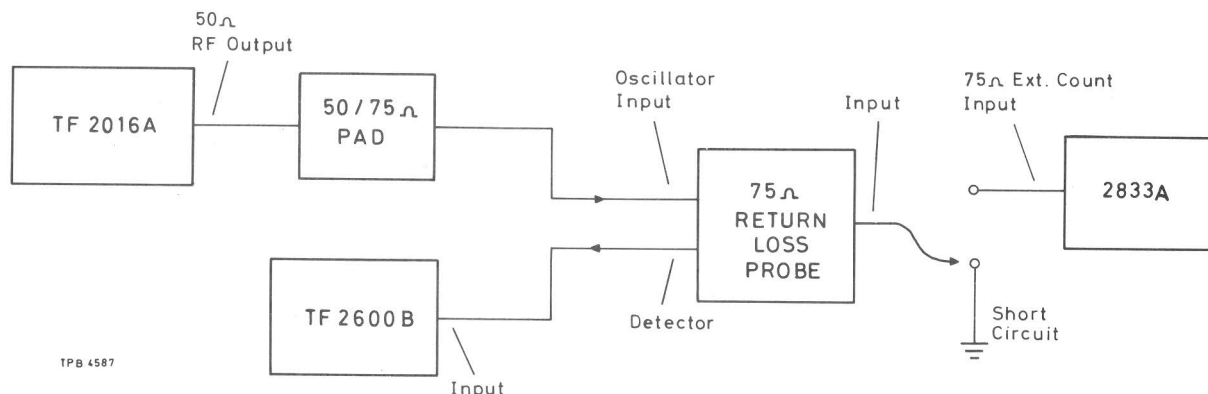

Fig. 3 Measuring EXT COUNT input return loss
(4) If a return loss measuring set is not available, the following test equipment can be used as shown in Fig. 3.